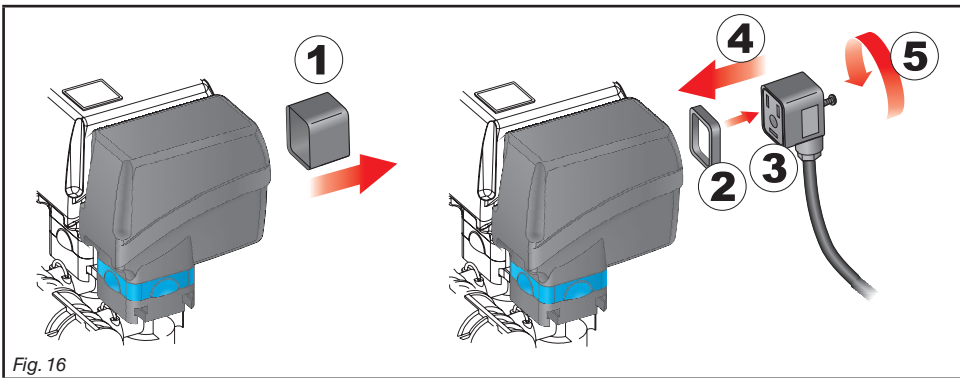

Fig. 16
- All valve connectors must be provided with seals before being connected (Fig. 16).
- Remove the protection cap (1, Fig. 16) from the electric valve.
- Place the seal (2) onto the connector (3), and push the connector fully on (4): **be careful not to bend the contacts upon insertion on the valve.**
- Tighten the screw (5) fully home.